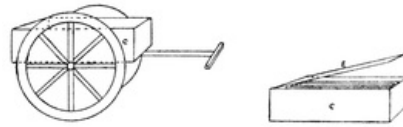

FIG. 93
**The Limber** (Fig. 93). This is made from a match-box (C), covered with dark grey paper and fitted with a cardboard cover E, similarly coloured. Match sticks, coloured black, form the shots. The handle consists of two match sticks, or two strips of cardboard, glued together. The wheels must be the same size as those for the gun.